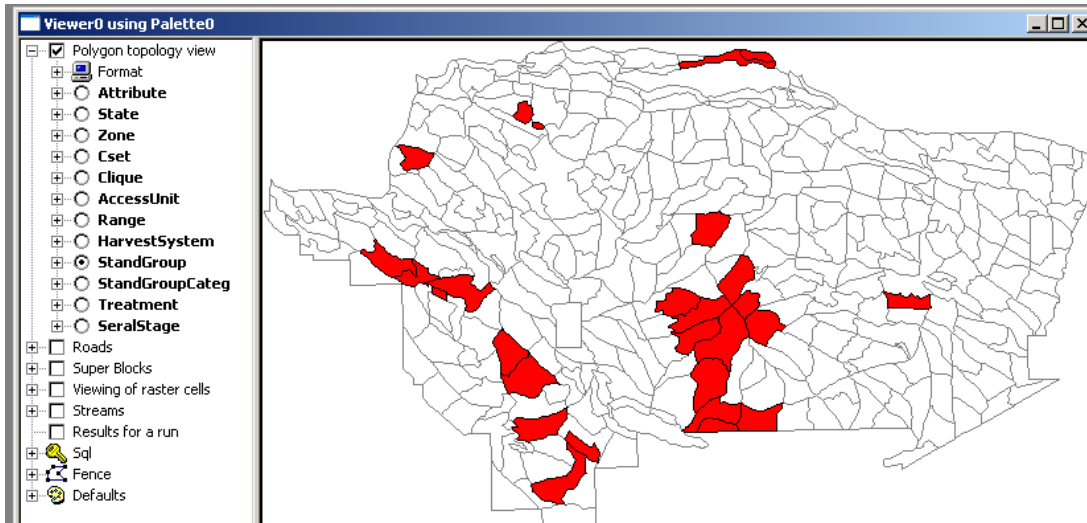

Figure 60: polygons selected for commercial thin.
- 12.3.6 From the *Choose polygon stand group* value drop down menu select *Young Fir* (figure 60).